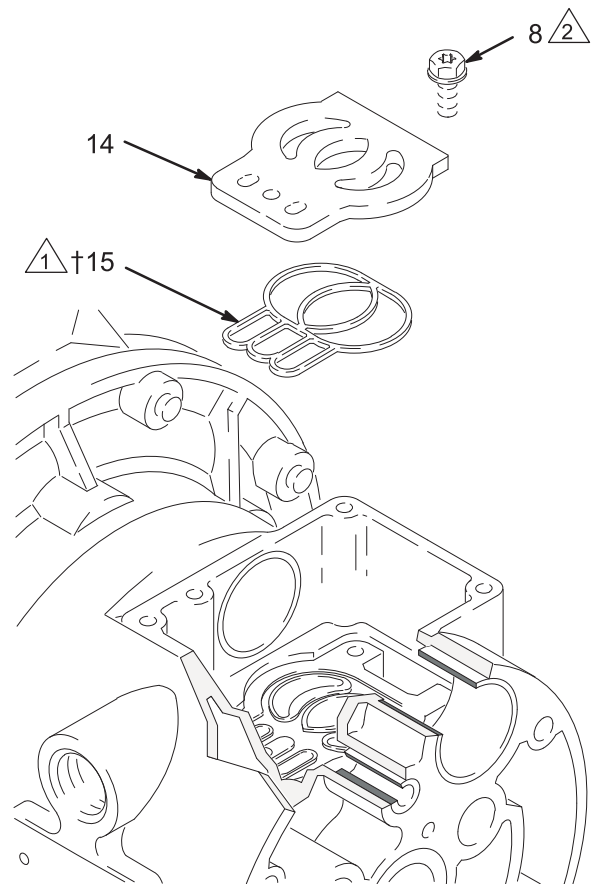

Fig. 10
5. Inspect the valve plate (14) in place. If damaged, use a Torx (T20) screwdriver or 7 mm (9/32 in.) socket wrench to remove the three screws (8). Remove the valve plate (14) and seal (15). See **Fig. 10**.
2. Install the valve plate seal (15) into the groove at the bottom of the valve cavity. The rounded side of the seal **must face down** into the groove. See Fig. 10.
3. Install the valve plate (14) in the cavity. The plate is reversible, so either side can face up. Install the three screws (8), using a Torx (T20) screwdriver or 7 mm (9/32 in.) socket wrench. Torque to 50–60 in-lb (5.6–6.8 N•m). See Fig. 10.